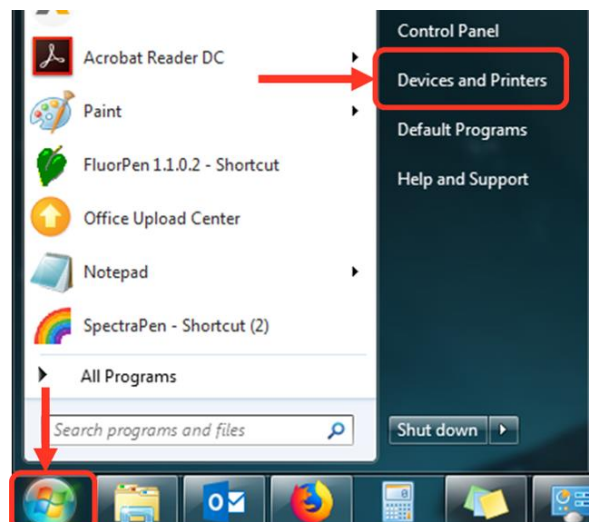

Fig. 13 Start bluetooth application.
- Select: Start > Devices and Printers (Fig. 13).